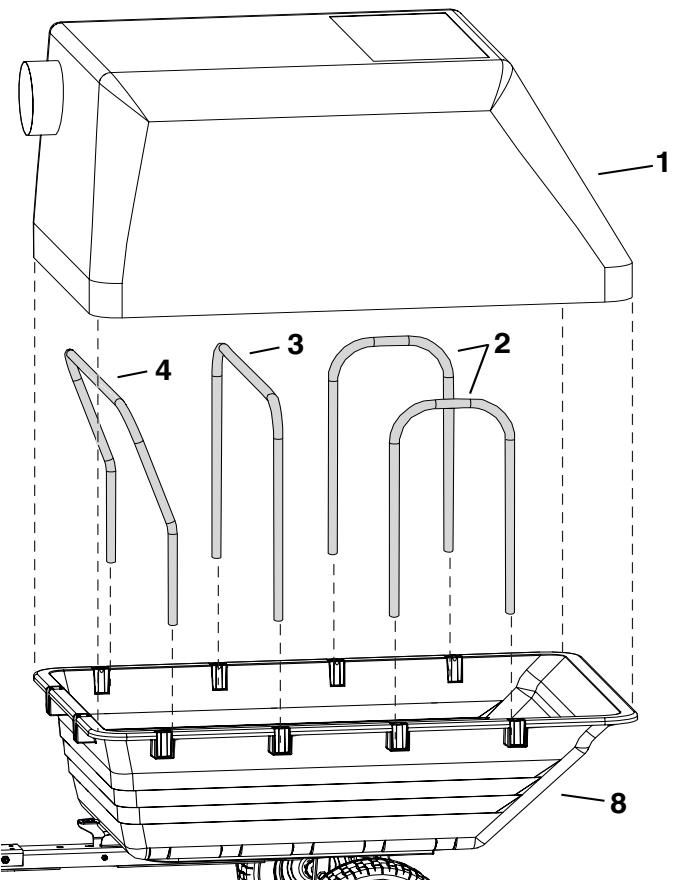

FIGURE 14
- Insert the small hopper tube (2) into the rear two slots on the poly bed (8). Repeat on other side.
- Insert the hopper tube (3) across the poly bed (8) as shown in the slots forward of the small hopper tube (2) slots.
- Insert the angled hopper tube (4) into the front slots making sure the angled portion is facing forward.
- Install the cover (1) on top of the poly bed (8). Making sure the part of the cover with the round hole is facing forwards. Tighten drawstring on cover. See figure 14.